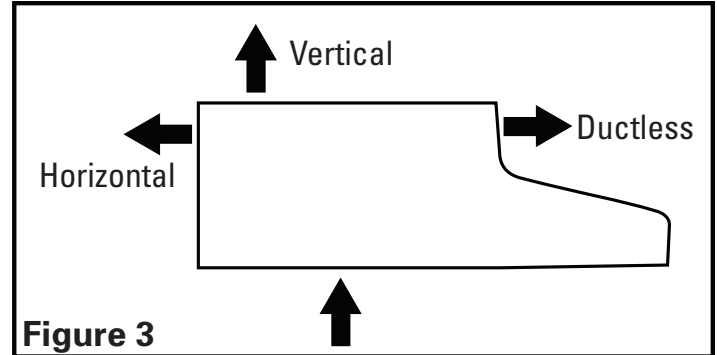

Figure 3
1. Choose the type of ducting you will require. This model is equipped to vent either Vertically or Horizontally through a 3-1/4" x 10" duct. It can be modified to be ductless (re-circulates the air back into the kitchen) with the addition of 2 models CF-01 Charcoal Filters (not included) (**Figure 3**).